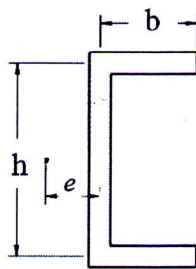

Fig. 2
- 5 a) For an infinite plate with a circular hole under uniaxial tension, write the expression for stress distribution ($\sigma_{\theta\theta}$) and plot it for the plane perpendicular to the loading direction. (3)
b) Derive the equilibrium equation in radial direction in polar co-ordinate system. (7)
- 6 A thick cylinder with 100 mm inside diameter, and a 200 mm outer diameter is subjected to an internal pressure of 60 MPa. Determine the tangential stress at the inside and outside surfaces, (ii) plot the radial and tangential stress distribution across the thickness (iii) Determine the increase in inside radius if the material is steel with for which $E = 210$ GPa and Poisson's ratio = 0.3. (10)
- 7 a) Define shear center. Determine the shear center (e) of a uniform thickness channel section shown in Fig. 2. Given $b = 10$ cm, web and flange thickness = 1 cm and $h = 15$ cm. (4)